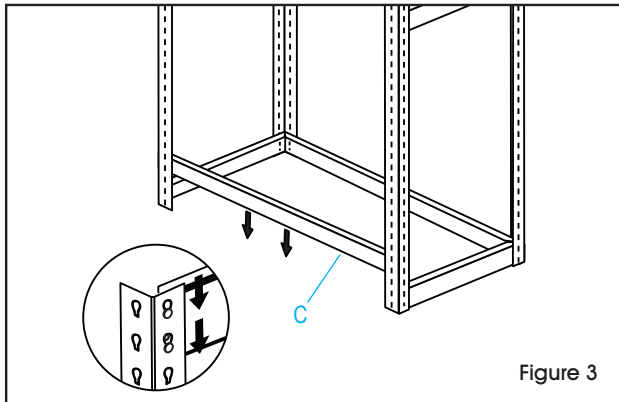

Figure 3
4. Connect the two upright post assemblies by inserting front/back supports (C) at the top and bottom of each upright post. (See Figure 3)